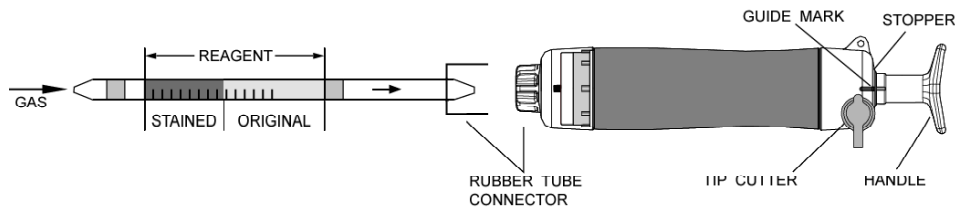

Fig.1
- ② Insert the detector tube into aspirating pump securely as shown in Fig.1. (Arrow mark shall point to the pump.)
- ③ Align the guide marks on the shaft and stopper of the aspirating pump.
- ④ Pull the pump handle at full stroke until it locks and wait for 1.5 minutes or until the completion of sampling is confirmed with the flow indicator of the pump (See descriptions about the flow indicator in the instructions of the pump).
- ⑤ Push the handle without removing the detector tube from the inlet, and air in the pump will be discharged perfectly. Then repeat the step ④ twice again.
- ⑥ On completion of sampling, read the scale at the maximum point of the stained layer.
- ① Temperature; Correct the tube reading by following temperature correction table.